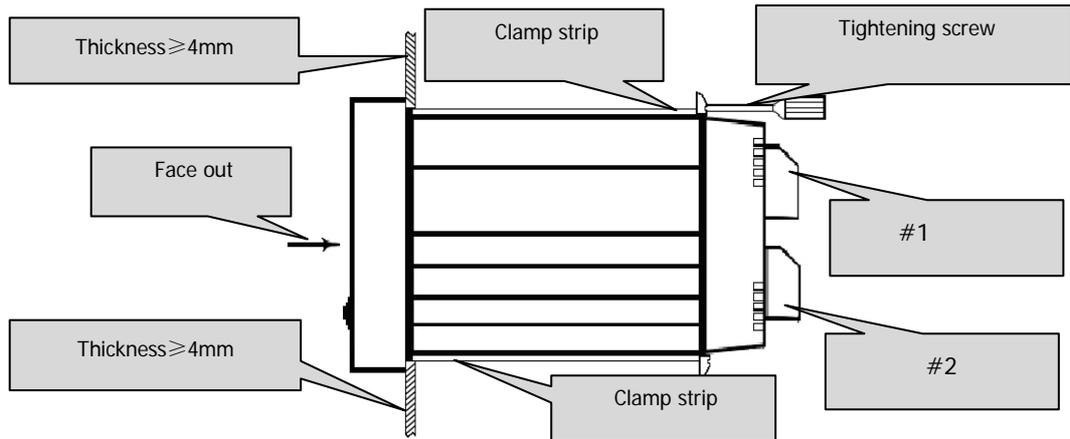

Figure 2-2-3
2.2.3 Installation (Figure 2-2-3)